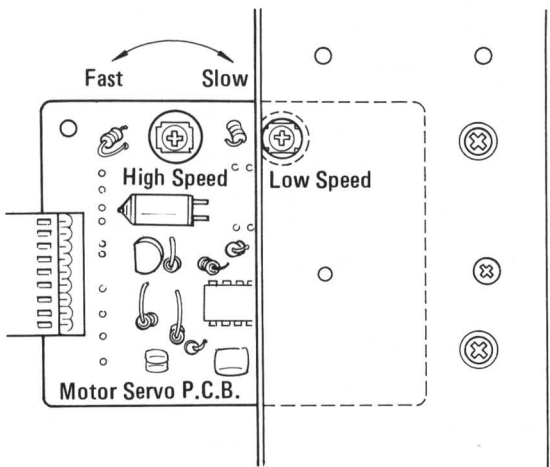

Fig. 5-12
3. Play the middle of the test tape and adjust the HIGH speed trimmer resistor until the frequency counter indicates a reading of 3000 Hz. See Fig. 5-12.